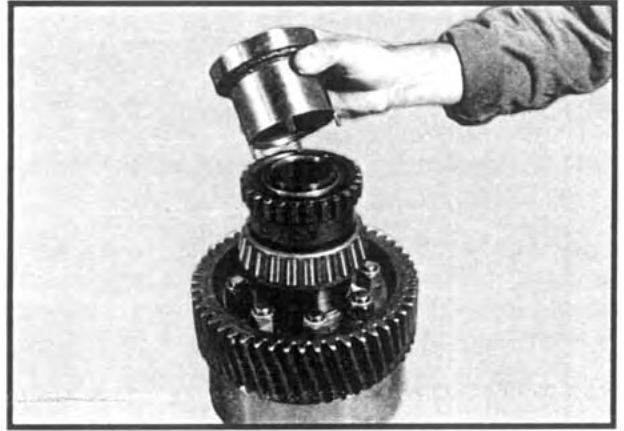

Fig 50
2. Place the large gear into position on the front differential case half. It may be desirable to heat the gear slightly. Allow the gear to cool completely and install the (8) gear retaining locknuts. Torque to specification. Heat and install the front bearing cone assembly against the shoulder of the case.
3. slide the clutch gear into place against the bearing cone. Install the clutch gear retaining locknut using Fabco Tool 866-0368 or equivalent. See Figure 50. Torque to specification.